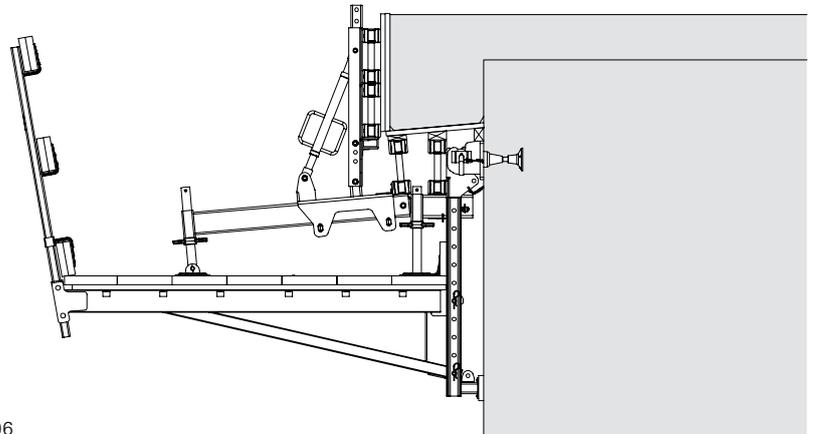

Fig. C3.06
- Dismantle and remove the Formwork Unit. (Fig. C3.06)